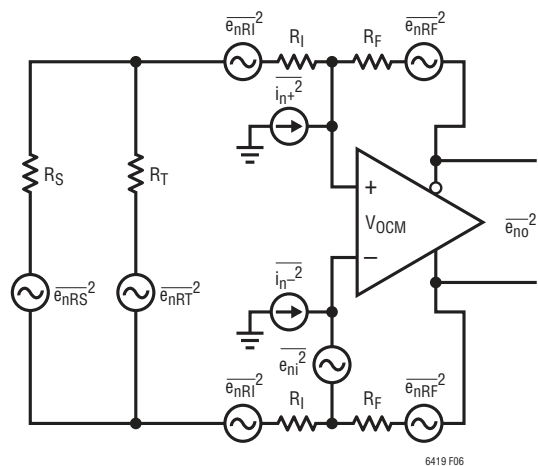

Figure 6. A More General Noise Model Including Source and Termination Resistors
To calculate noise figure (NF), a source resistance and the noise it generates should also come into consideration. Figure 6 shows a noise model for the amplifier which includes the source resistance ( $R_S$ ). To generalize the calculation, a termination resistor ( $R_T$ ) is included and its noise contribution is taken into account.